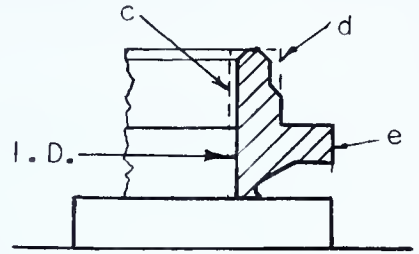

FIG. 218 — Steps 15 and 16
10. Release the clamps, have the craneman turn the job over, and place the ring with the wide side down as shown in Fig. 218.
15. Finish-bore the inside to meet the previously bored diameter as indicated at *c* in Fig. 218.
16. Finish-turn the outside as indicated at *d* in Fig. 218, according to the blueprint.